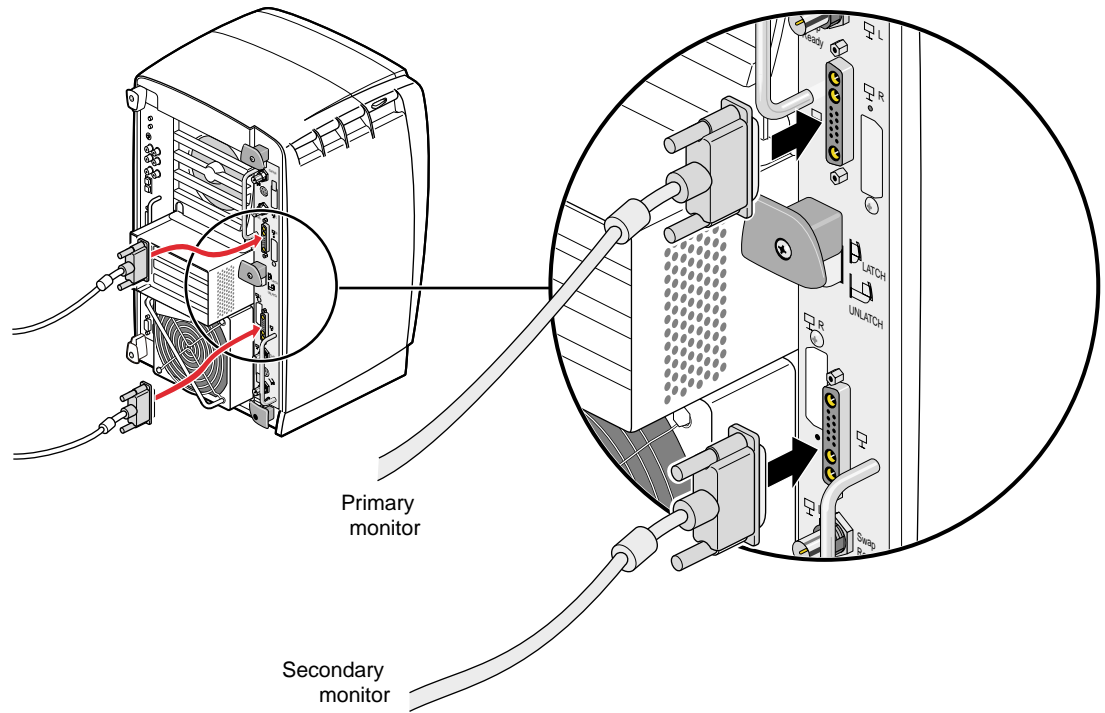

Figure 2-5 Connecting the Monitor Signal Cables
3. Connect the primary monitor signal cable to the primary graphics board set in slots A and B, as shown in Figure 2-5. The primary graphics board set is toward the top of the Octane2 workstation.
4. Connect the secondary monitor signal cable to the secondary graphics board set in slots C and D, as shown in Figure 2-5. The secondary graphics board set is toward the bottom of the Octane2 workstation.